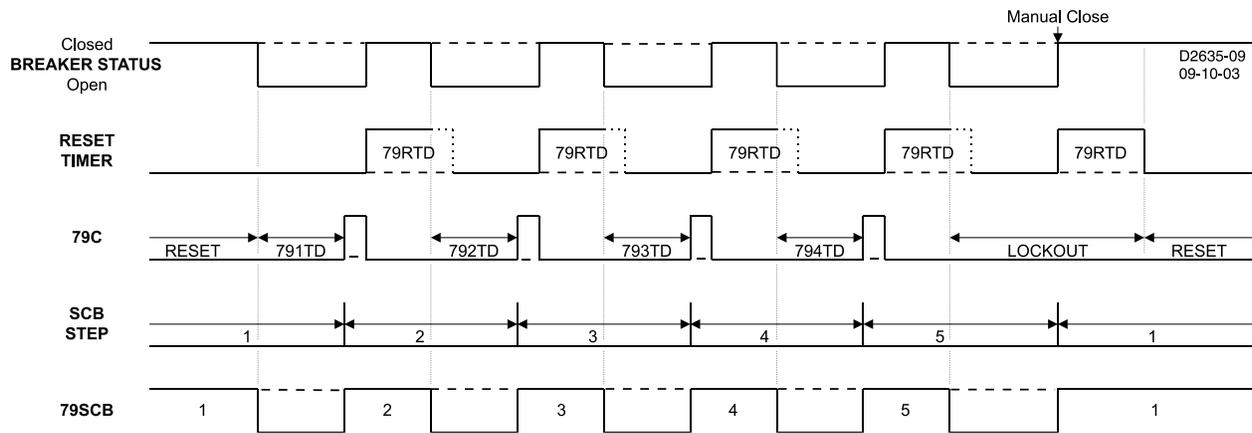
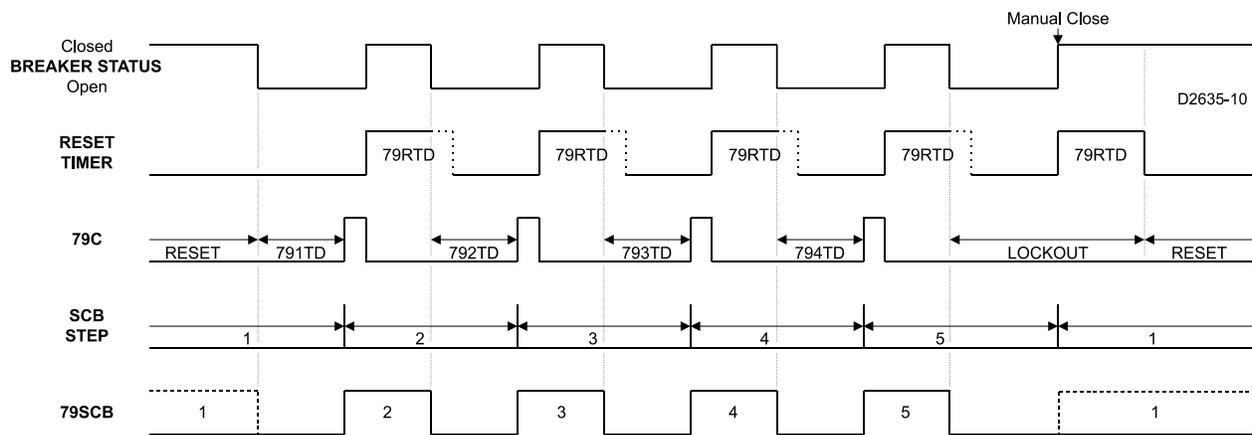

Figure 4-35. S#-79SCB=1/2/3/4/5 Logic Timing Diagram
Figure 4-36. S#-79SCB=2/3/4/5 Logic Timing Diagram
*Figure 4-35* shows a logic timing diagram showing all possible sequence control blocks enabled (TRUE). In *Figure 4-36*, 79RTD is the reclose reset time delay and 79#TD is the reclose time delay where # is the reclose shot number.